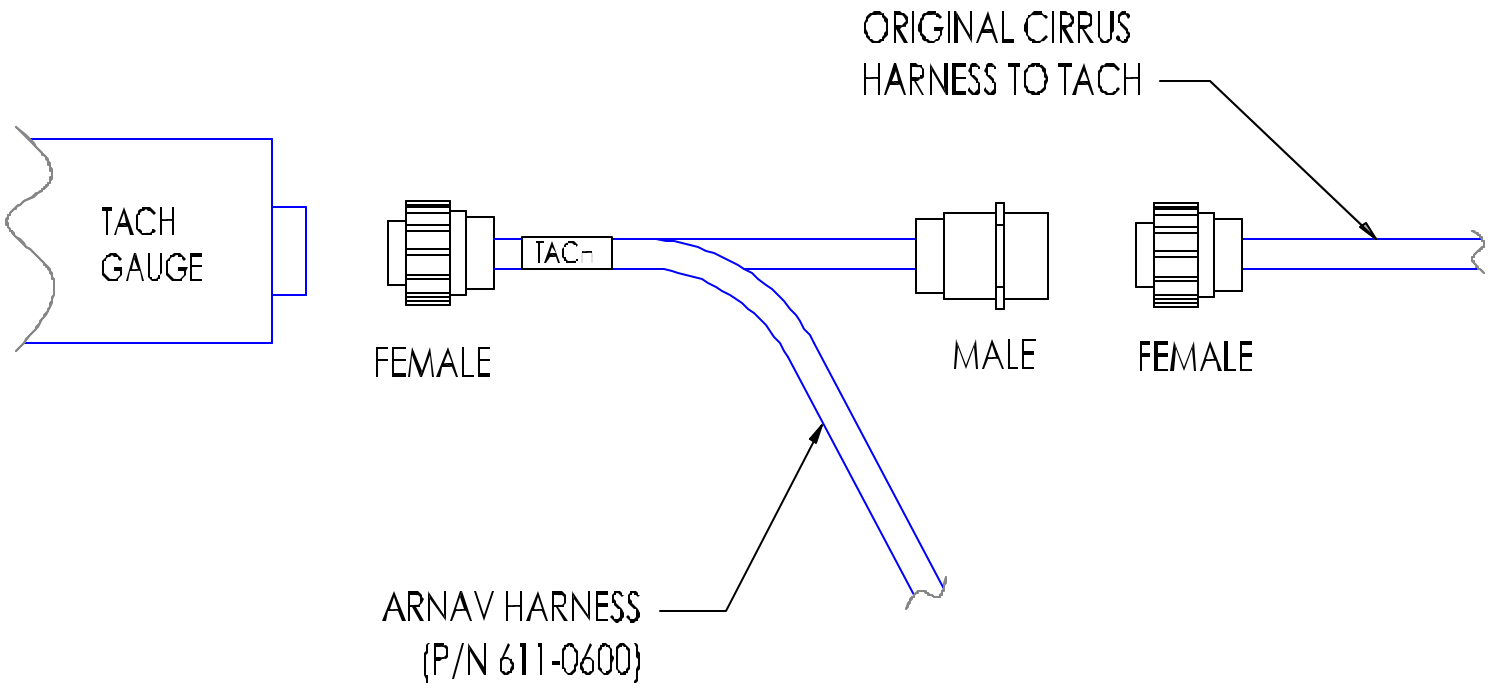

Figure 7-1
5. Connect the other 9-pin connector of the 611-0600 harness to the 9-pin connector that was removed from the indicator. (Refer to **Figure 7-1**).